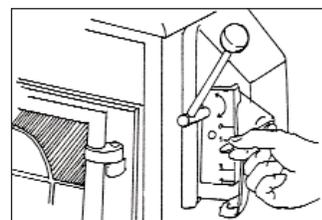

Figure 2:
2. Push the air lever next to the side door all the way down to "4" to completely open the air damper. With the lever in the down position, maximum air is allowed into the firebox. (Fig. 2)